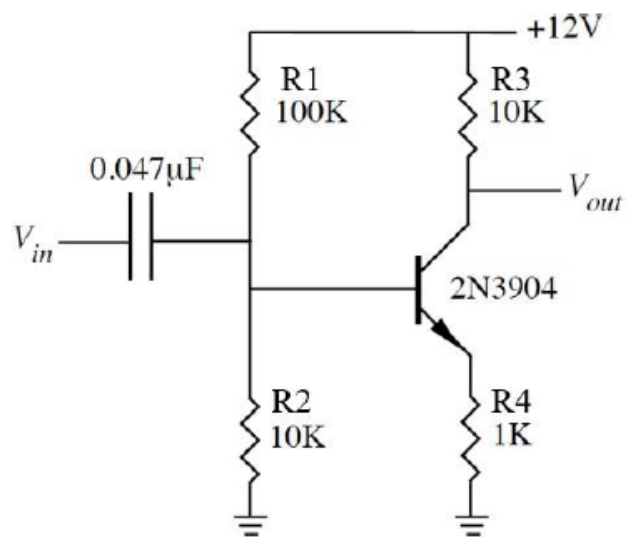

Figure 1 Common Emitter Amplifier
1. Set up the common emitter amplifier circuit shown in Figure 1 on the breadboard.